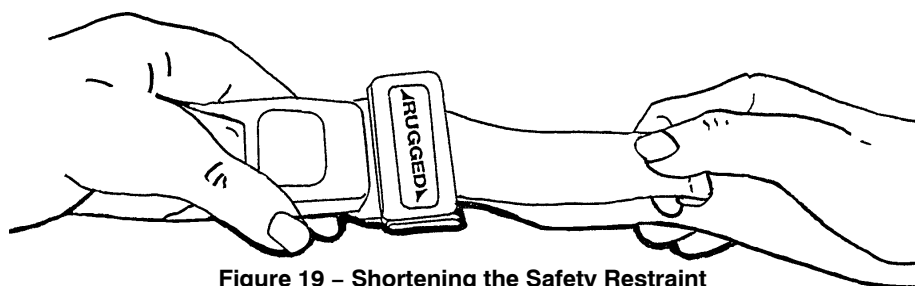

Figure 19 – Shortening the Safety Restraint
- To shorten the restraint, grasp the hemmed tab and pull the webbing back through the tang until the required tightness is achieved (Figure 19).